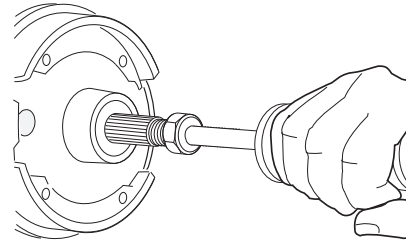

Fig. 4 Removing/Installing Axle Shaft
2. Attach a slide hammer to the axle shaft thread and remove the axle and bearing from the axle tube (Ref. Fig. 4).